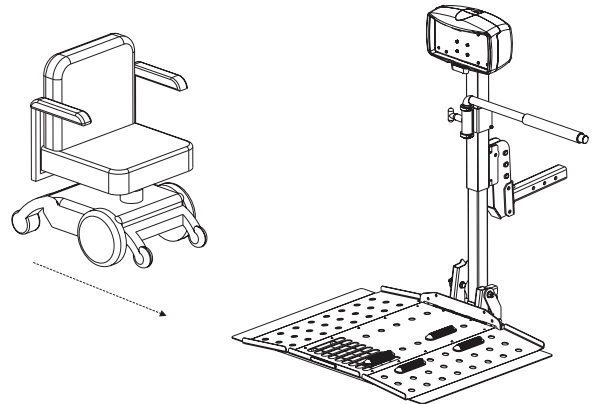

Figure 6-6
1. Position the chair onto the platform after the wheel chocks have been set. *See Figure 6-6.*